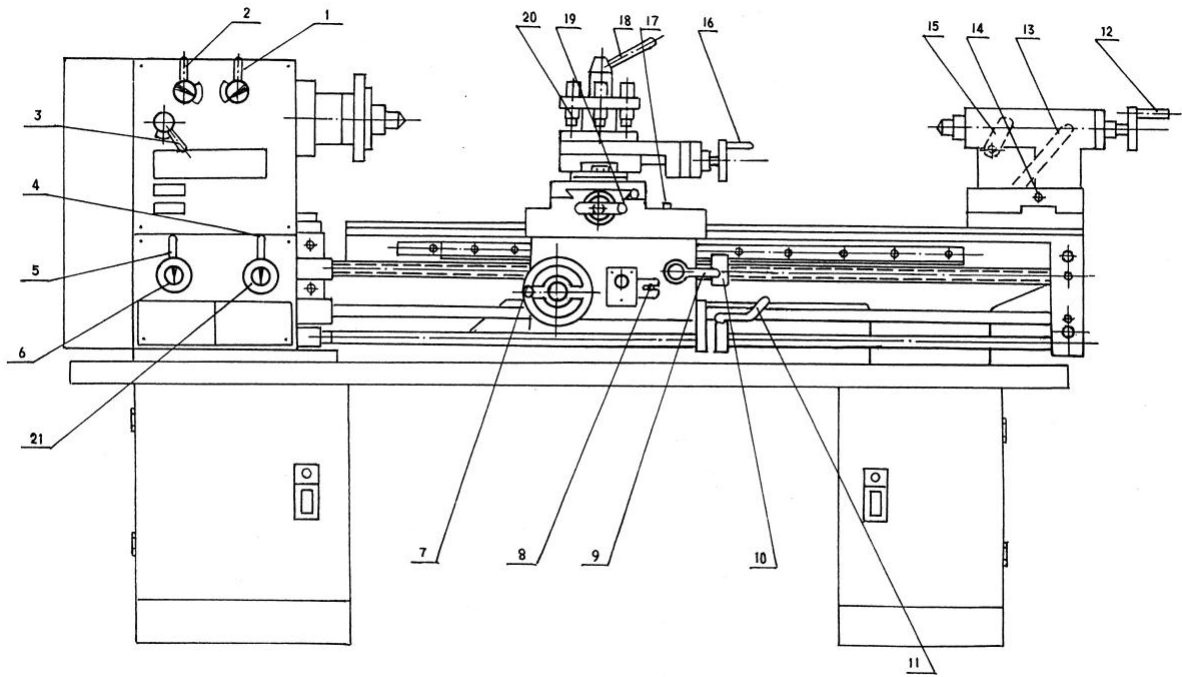

Fig.4 Operation levers I type Feedbox
The feed box receives its motion from shaft V of the gearbox through a set of change gears. If the handle (3), see fig 4, 5 and 6, is placed in its right hand position, the lathe is set for cutting of right hand thread. If the same handle is placed in its left hand position, the lathe is set for cutting of a left hand thread.